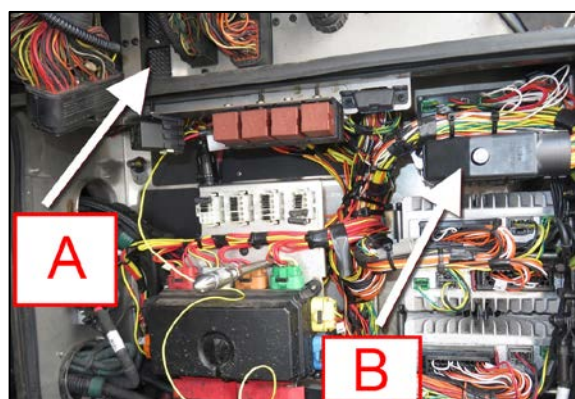

Figure 31
56. Locate the male connector C21 (item A, Figure 31) and the A1 module connector (item B, Figure 31). A new wire has to run from male connector C21 to A1 module connector.